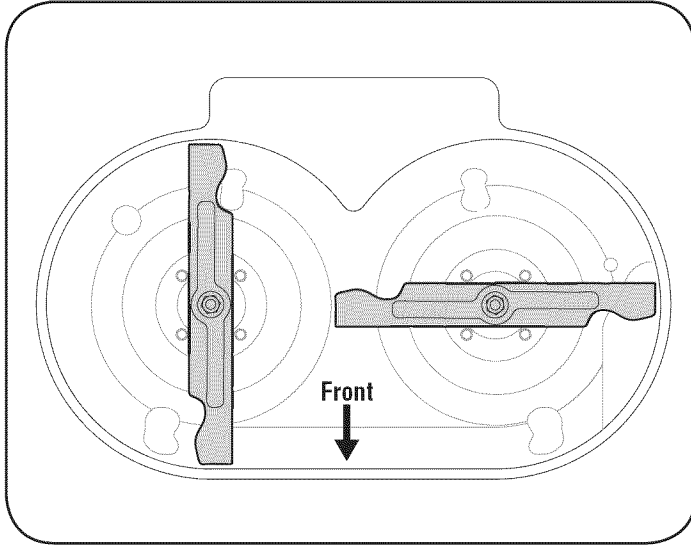

Figure 27
8. Before installing a replacement timing belt, the marks on each spindle assembly must be positioned in such a way as to ensure the blades are perpendicular to each other, Figure 27.